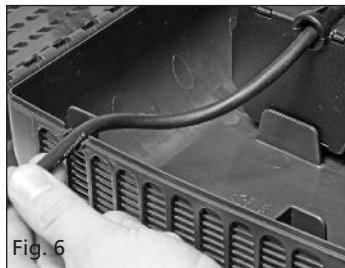

Fig. 6
7. Locate the mains supply cable into the recess on the side of the cage. Ensure it is seated in the correct position so that the cable does not get trapped when the cage is closed. (Fig 6).